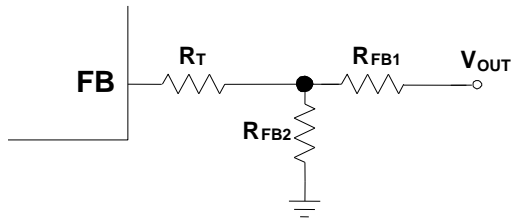

Figure 4: T-Type Feedback Network
The external resistor divider connected to FB sets the output voltage (see Figure 4). The feedback resistor (R1) also sets the feedback loop bandwidth with the internal compensation capacitor. Choose R_{FB1} to be around 40kΩ when $V_{OUT} \geq 1V$. R_{FB2} can then be calculated with Equation (1):
The T-type network is highly recommended when V_{OUT} is low (see Figure 4).